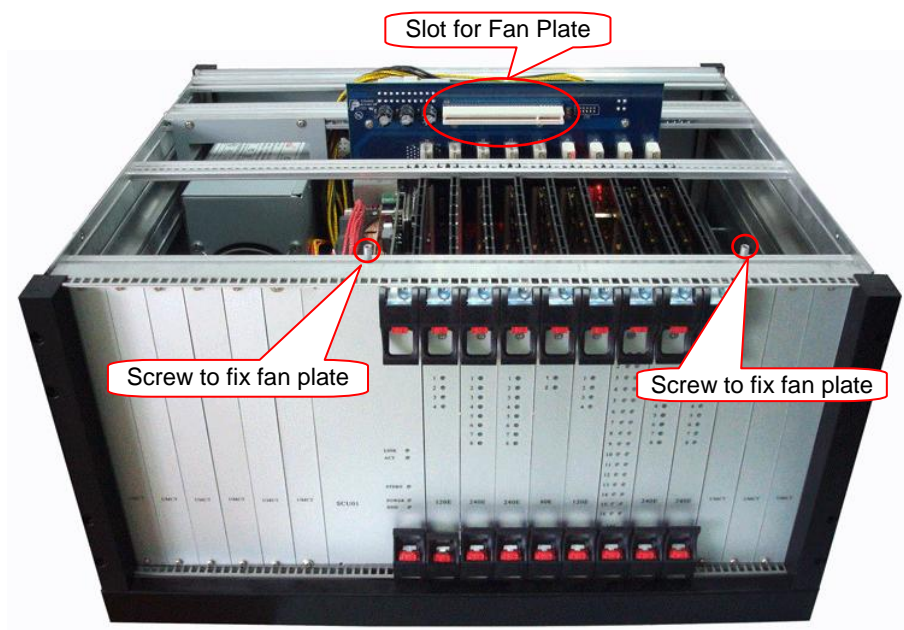

Figure 2-12 Fans Location in 6U Chassis
Step2: Loosen off the screws that fix the fan plate and tear down the broken fans. Replace them with new fans and tighten up the screw to fix the fan plate. See Figure 2-12 below.